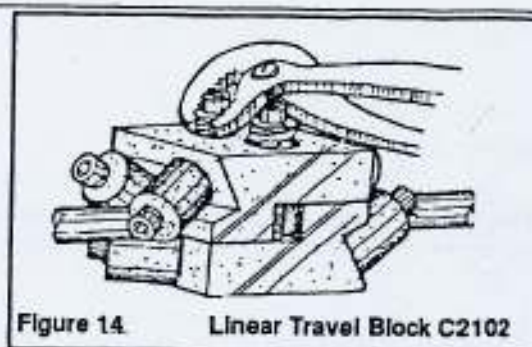

Figure 14 Linear Travel Block C2102
- With the reverser sensitivity is turned all the way down (fully counterclockwise), the force required to prevent door from closing should be adjusted to 28 pounds and not exceed 30 pounds. This should be checked at several points in the closing cycle by stopping the door and attaching a spring scale. The scale reading should be 28 pounds and not exceed 30 pounds. If it does, the closing force must be reduced by adjusting the screws on the top of the linear travel block C2102. (Figure 14)